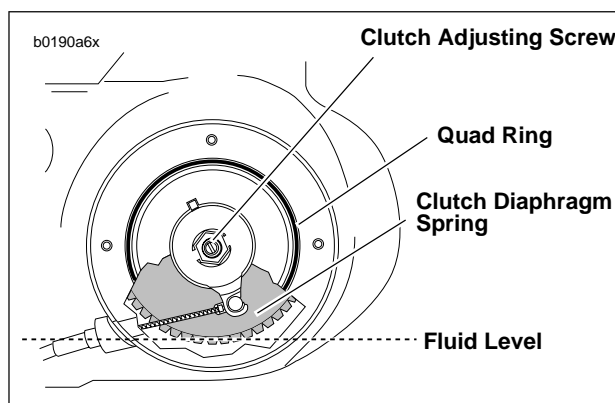

Figure 1-19. Fluid Level
6. See Figure 1-19. Add SPORT-TRANS FLUID (Part No. 98854-96 quart size; Part No. 98855-96 gallon size) as required until fluid level (4) is even with bottom of clutch diaphragm spring (3).